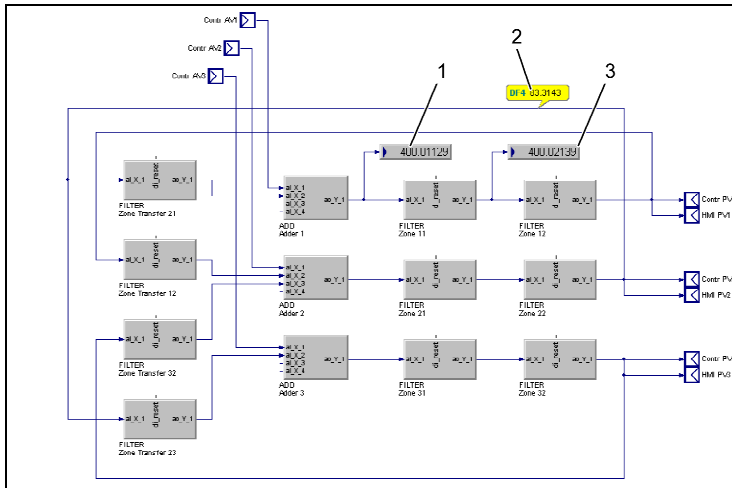

Fig. 36 Programmer project: Debugging example
- **Testing an application:** There are two possibilities to localize application errors: When you position the mouse pointer on a connecting line, the relevant values are displayed (no. 2 in Fig. 36). Alternatively, special blocks from the PMA library can be used.
As trouble shooting in applications is also called "Debugging", these are termed "Debug blocks". You can use these blocks to display information on the program during runtime (1 and 3 in Fig. 36). They are displayed exclusively in the development environment (i.e. not on the instrument).
- **Program blocks:** Program blocks are the basic units making up your project. Program blocks consist of function blocks (for example controllers, filters, totalizers, etc.), links between function blocks as well as inputs and outputs. An example of such a function block is given in Fig. 36. Your application may consist of max. 15 program blocks.